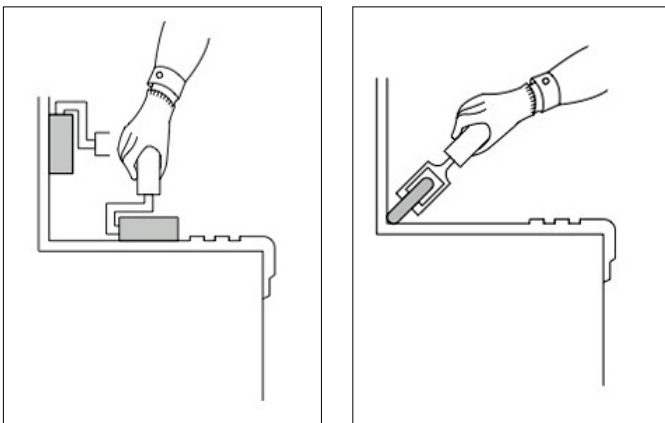

Fig 9
- ◆ Immediately hand roll the stair tread, riser, nosing and the corner between riser and tread. Roll the nose area carefully. See Fig 9 & 10. Cove stick is optional at the tread riser junction.
- ◆ Immediately hand roll the stair tread, riser, nosing and the corner between riser and tread. Press the corner area carefully. See Fig 9 & 10.